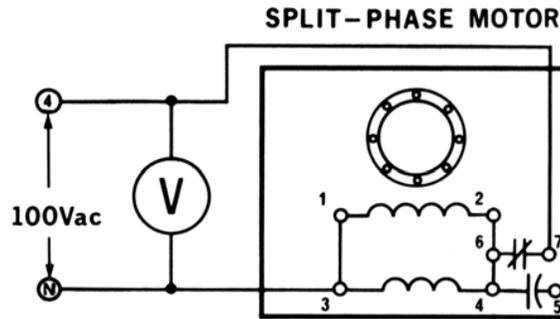

Figure 6-5
- 10) Connect the circuit as shown in Figure 6-5. Observe that both windings are connected in parallel to the 100 V AC and the centrifugal switch is connected in series with both windings.